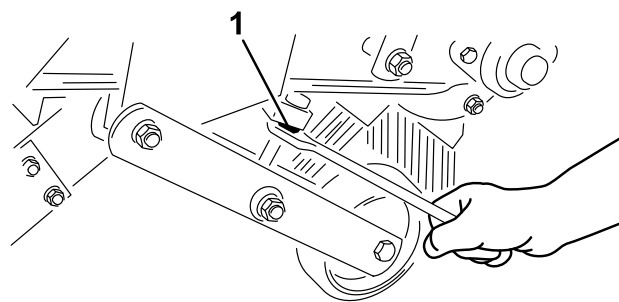

Figure 11
3. Turn the depth adjustment bolt until the rake slightly contacts the top of the turf grass. If a broom is installed, slight contact should be made with the surface. When the broom is operating, the contact width surface should be about 1 inch (25.4 mm) wide across the entire length of the broom (Figure 11).